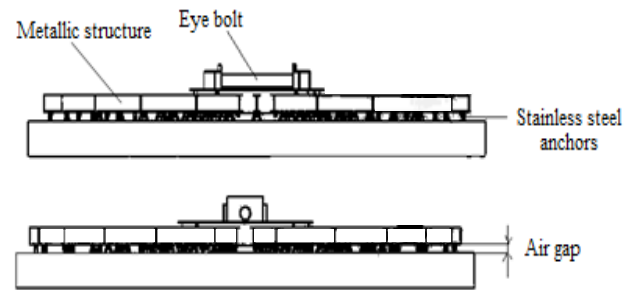

Fig.5: Cover – New design – Side View
1. The addition of an air gap between the metal structure and the refractory lining (fig.5).